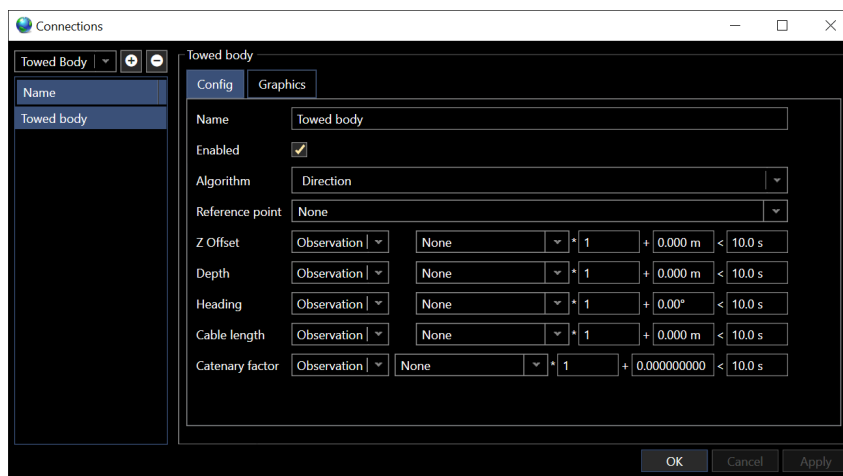

FIGURE 15-17 CONNECTIONS - CONFIGURE TOWED BODY DIALOG
- **Config Tab** (see Figure 15-17)